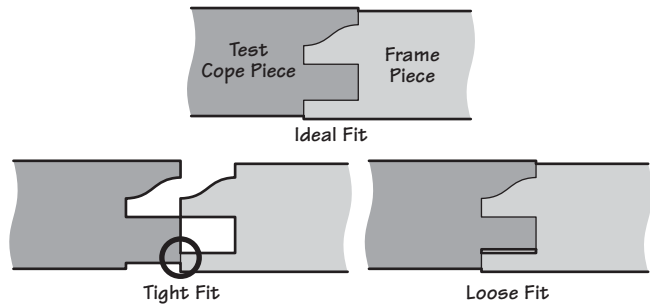

Figure 8: Testing the fit of the tongue.
- Test the fit of the tongue with a frame piece (see **Figure 8**). If the fit is too tight, remove shims. If the fit is too loose, more shims are required. Do not make the tongue fit too tight or you risk splitting the back of the stiles.